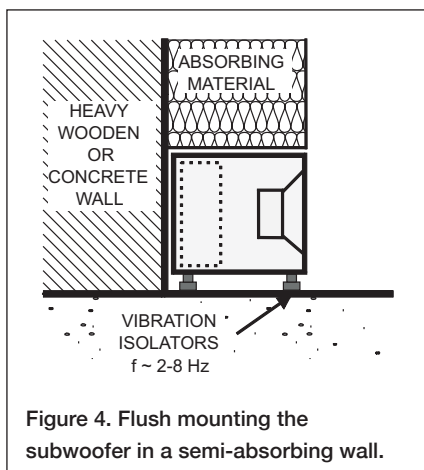

Figure 4. Flush mounting the subwoofer in a semi-absorbing wall.
Figure 4. Examples of subwoofer positioning. 1 and 2 are good starting positions for a single subwoofer and also work well with two linked subwoofers. Position 3 causes a significant bass boost and may cause asymmetric spatial imaging if only one subwoofer is used. Position 4 also works best with two subwoofers. Flush mounting (pos. 5) generally works well.